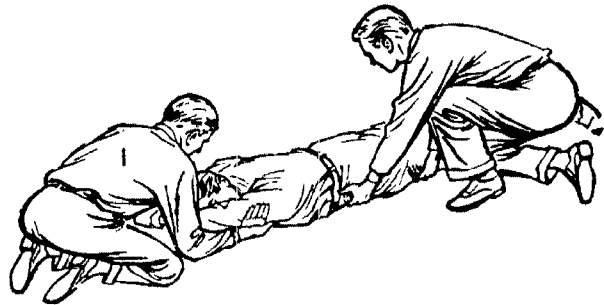

Fig. 39—Position of Carrier No. 1
Step 2. Carrier 1 kneels on one or both knees at the victim's head. He carefully slides his hands under the mid-forearms of the victim until the upturned palms of his hands rest under the victim's armpits. (See Fig. 39.)